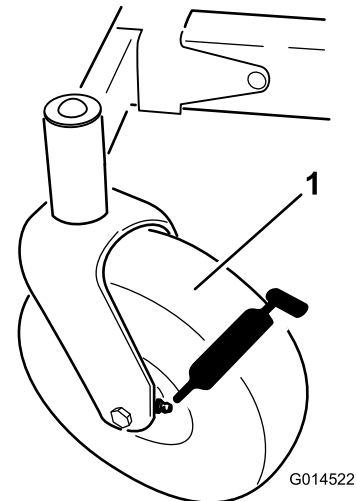
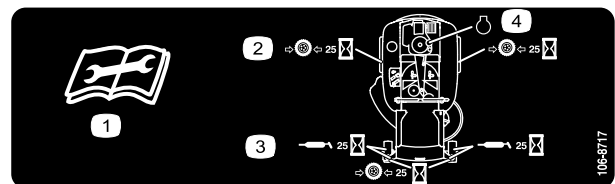

Figure 33
Figure 34
3. Clean the grease fittings (Figure 33 and Figure 34) with a rag.
4. Connect a grease gun to each fitting and pump grease into the fittings until grease begins to ooze out of the bearings (Figure 33 and Figure 34).